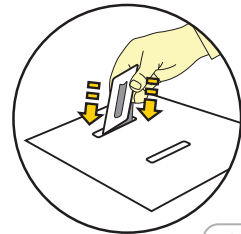

Figure 2
- Step 2:** To alter the buckle position, turn the carrier up side down and grab the 3 bar plate and feed it through the slot (refer Figure 2).